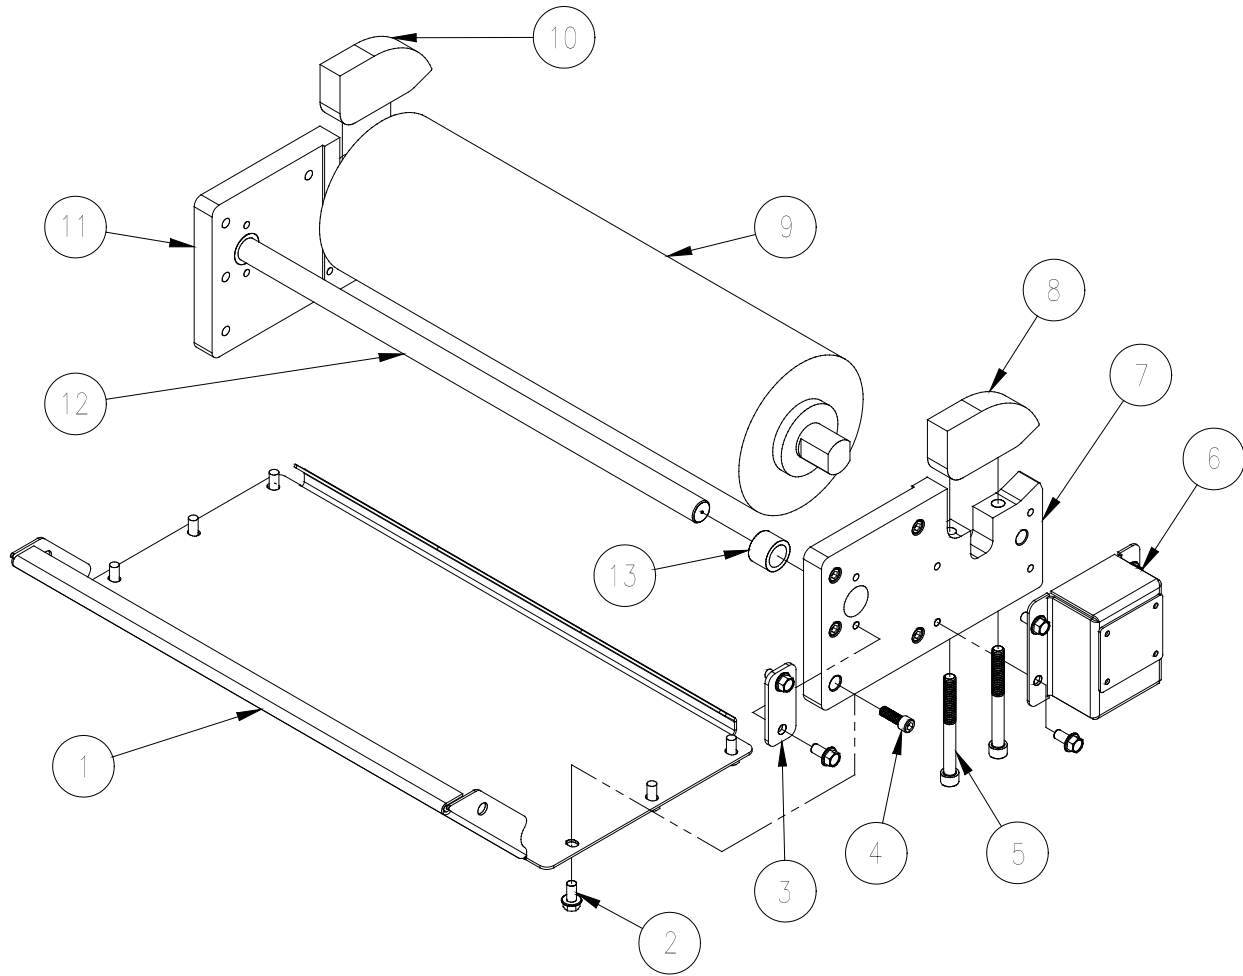

FIGURE 4. DRIVE END COMPONENTS
- 4) Using a 3/8" wrench; remove the 8 screws that fasten the drive pulley cover. Remove the motor cover (item #1, figure 4).
DRIVE END COMPONENTS (REF. FIGURE 4)